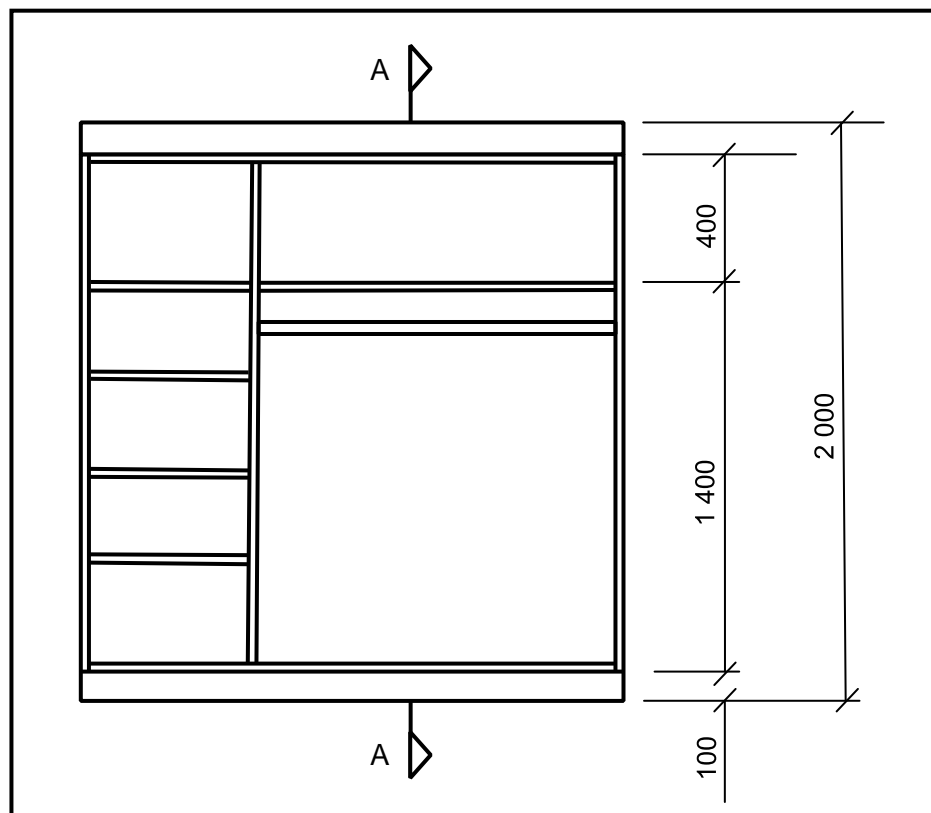

FIGURE 3.4
- 3.4 FIGURE 3.4 below shows the built in-cupboard without the doors. Use ANSWER SHEET B (3.4) and draw a vertical sectional view of the cupboard to scale 1 : 10.